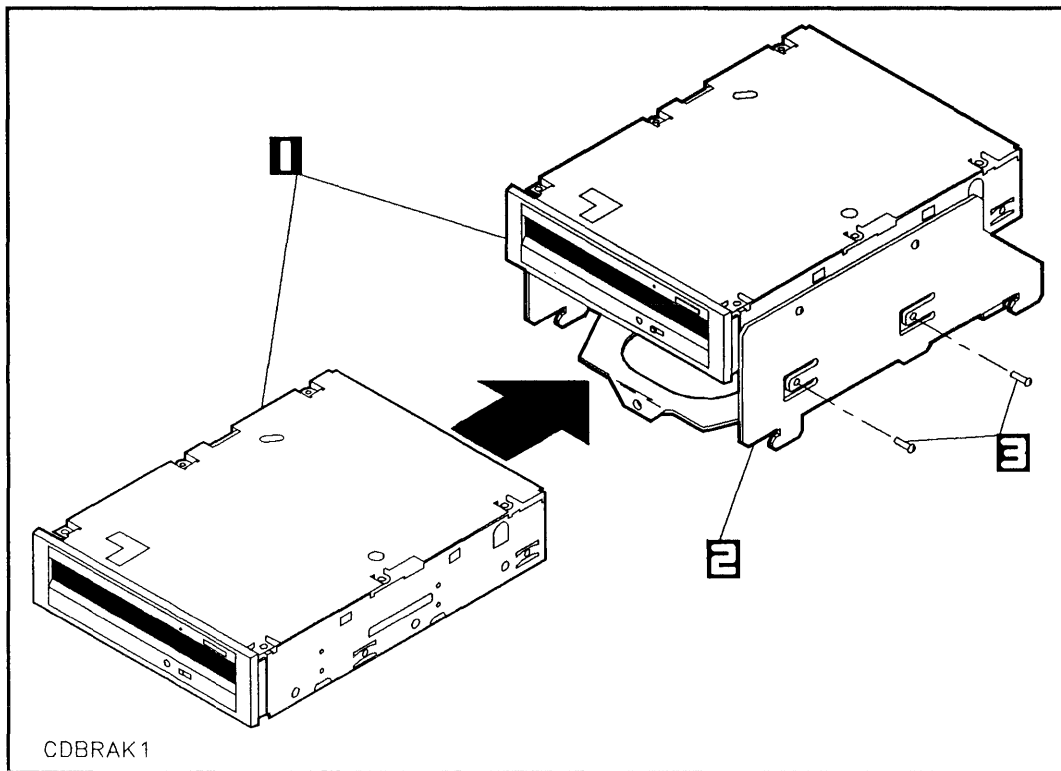

Figure 4-9. Installing a CD-ROM Drive into a Mounting Bracket
8. Secure the CD-ROM drive in the mounting bracket with the T10 bracket screws (see Figure 4-9).
4. Secure the CD-ROM drive in the mounting bracket with the T10 bracket screws (see Figure 4-9).